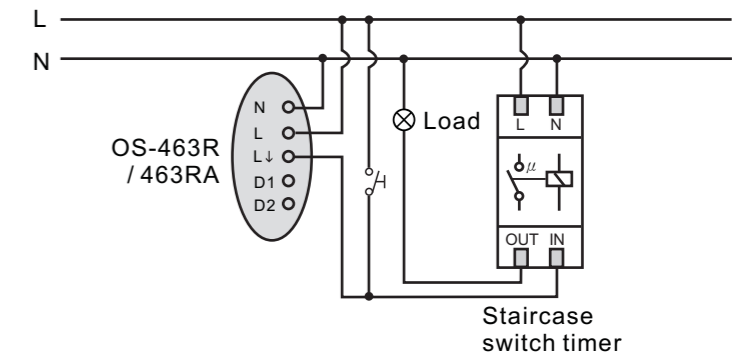

FIG.6
3.2.3 OS-463R / 463RA controls staircase switch timer (time1 should be set to $\sqrt{3}$ L) (See FIG.6).